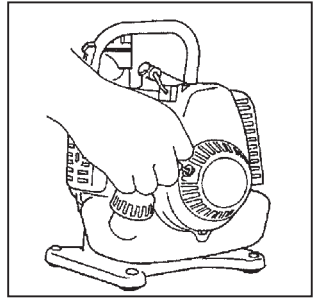

Fig. 2-4
1. Set choke lever to CLOSED position (1).
2. Set the throttle lever to approx. 1/2 throttle opening (2).
3. Pull recoil starter briskly, taking care to keep the handle in your grasp and not allowing it to snap back. (Fig. 2-4)